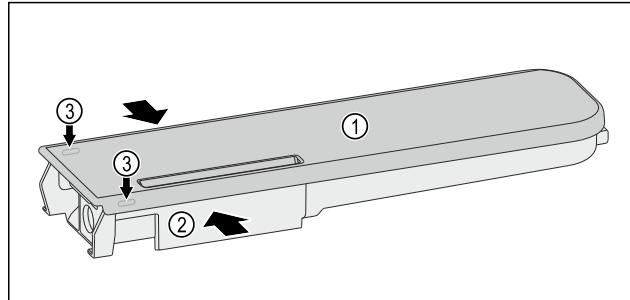

Fig. 117
- Squeeze the water tank *Fig. 117 (2)* and carefully lever the cover *Fig. 117 (1)* over the latches *Fig. 117 (3)* pull it up.
- Slightly move the cover *Fig. 117 (1)* back and forth and remove it from the top.